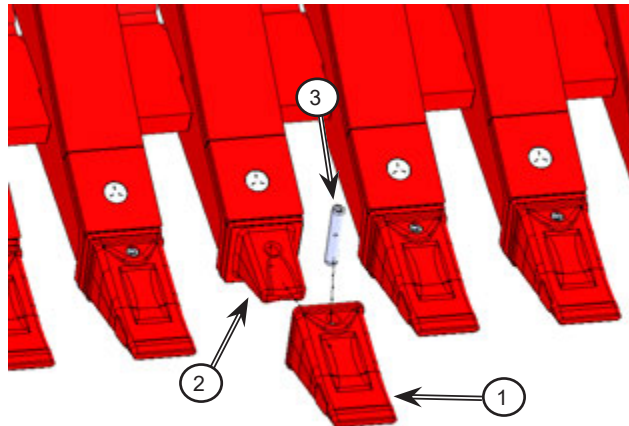

Figure 6.29: Install a new tine tip
3. Install a new tine tip; see *Figure 6.29*.
- a. Insert the new tine tip (1) onto the tine (2).
- b. Insert the new spring pin (3) ensuring it is flush top and bottom after installation.